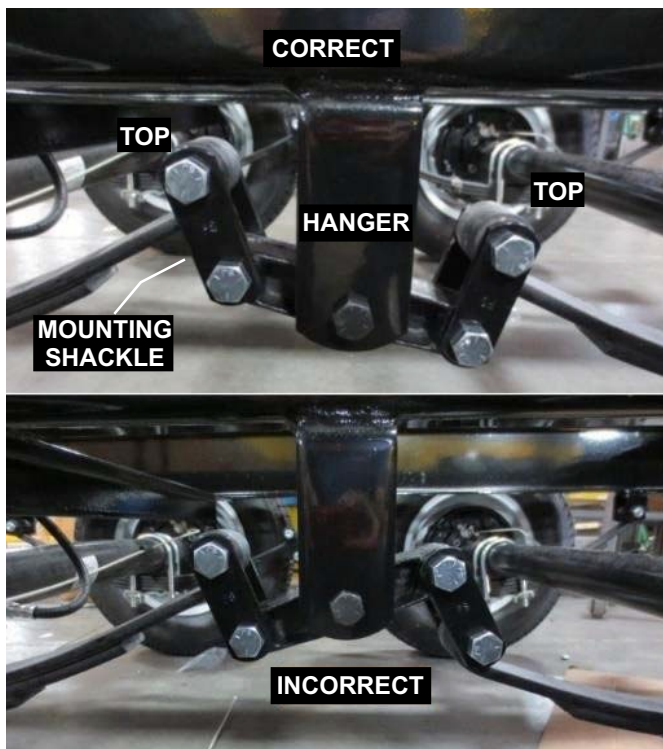

Figure 11. Mounting Shackle Orientation
2. Align the new axle assembly ((P/N 29396) with the hanger on the frame and equalizer as shown Figure 11